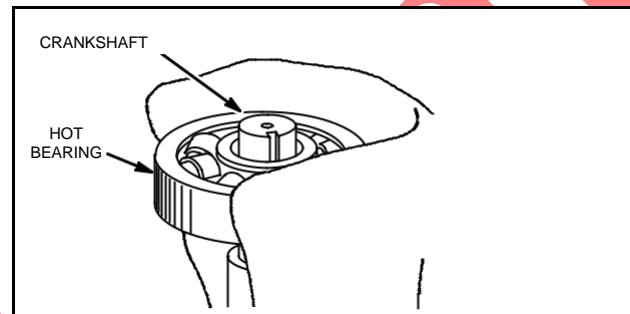

Fig. 5 – Installing Ball Bearing
3. Grasp bearing with the shield down (if equipped) and thrust it down on the crankshaft, Fig. 5. The bearing will tighten on the shaft while cooling. DO NOT QUENCH.